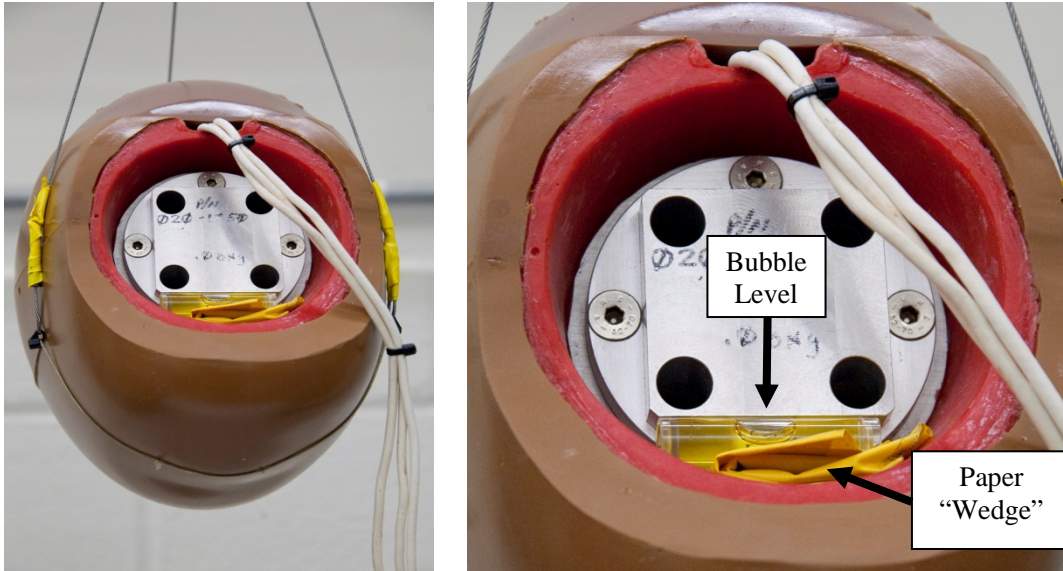
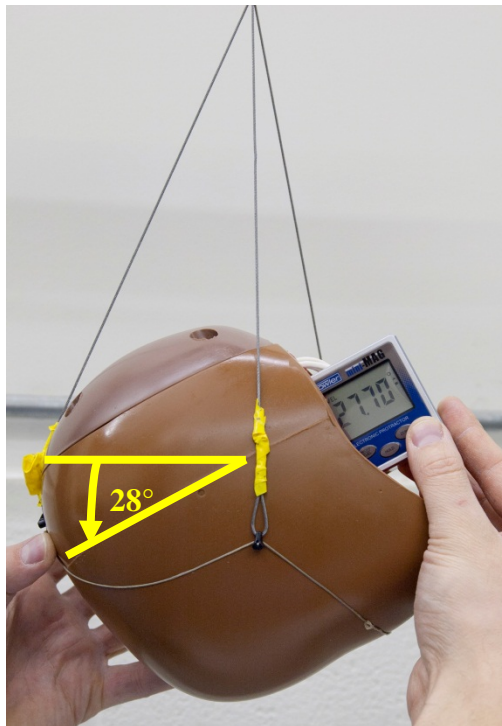

Figure 8. Ensure that the head is level in the lateral direction
Figure 9. Adjust head angle for frontal head qualification test
- Level the head laterally (Figure 8). Placement of a bubble level along the edge of the upper neck load cell simulator may aid in this process. Paper can be wedged underneath the bubble level to ensure contact with the straight edge of the upper neck load cell simulator.
- Adjust the head angle so that the upper neck load cell simulator is $28 \pm 2^\circ$ forward from the vertical (Figure 9). Ensure that the head remains horizontal laterally (Figure 8).